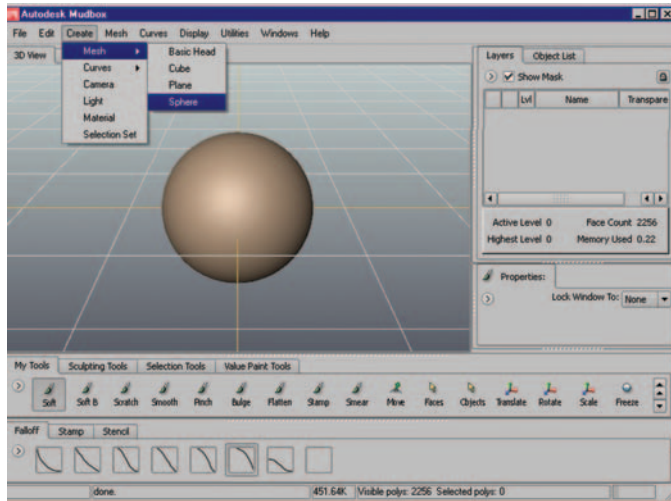

Figure 11.28 Create menu rollouts, as well as the Sphere mesh in the viewport.
1. Go to the Create menu, and click Create/Mesh/Sphere. A sphere is placed in the viewport. Figure 11.28 shows the menu rollouts and the sphere in the viewport.